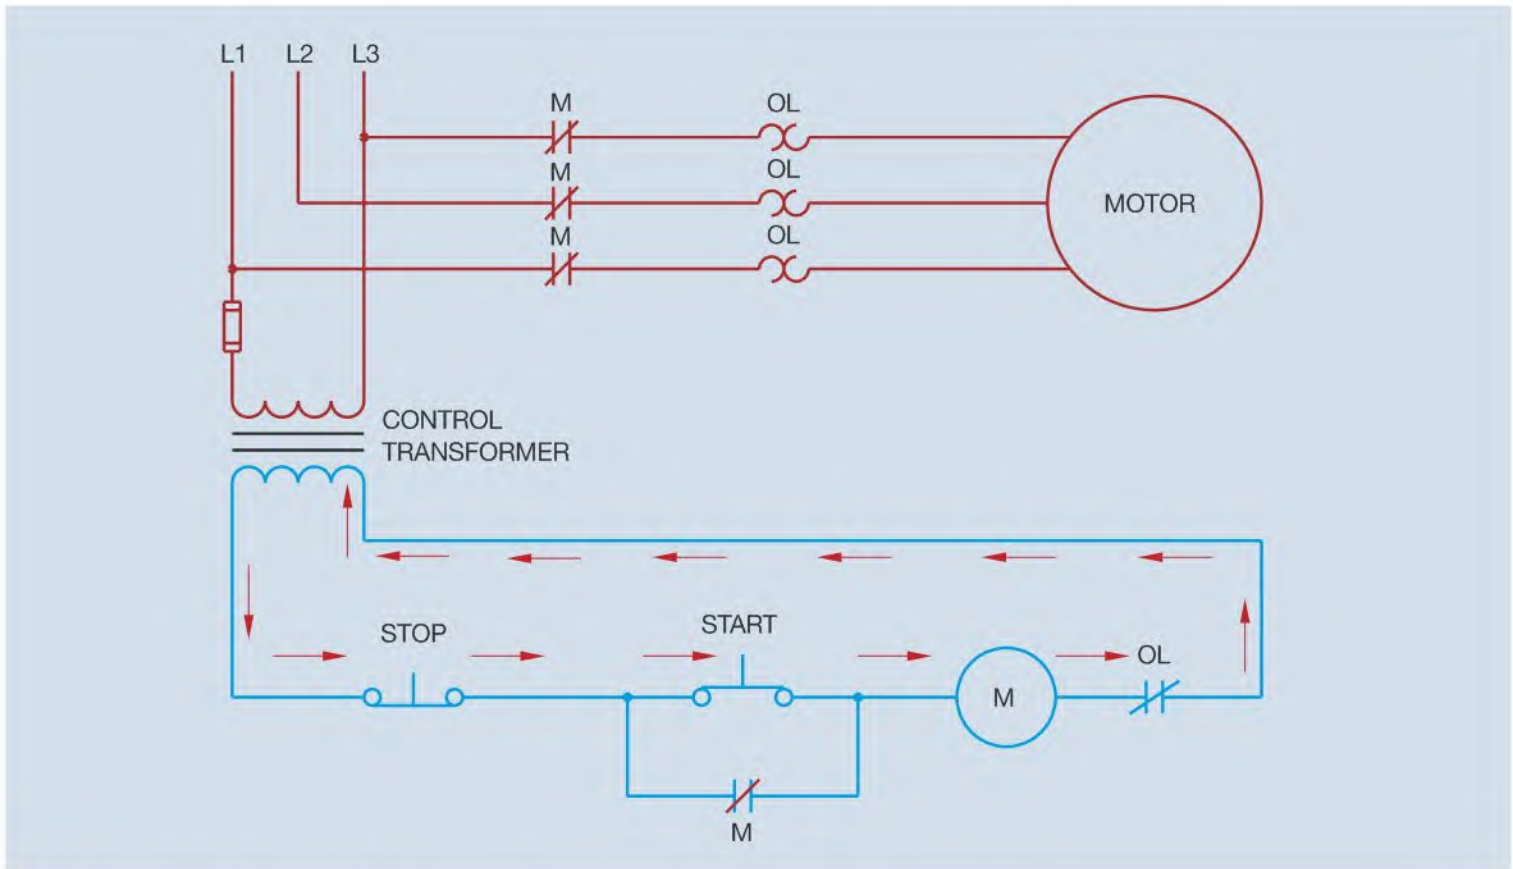

Figure 7-2 When the START button is pressed, current flows through M coil.
- When M motor starter energizes, all M contacts change position (Figure 7-2).